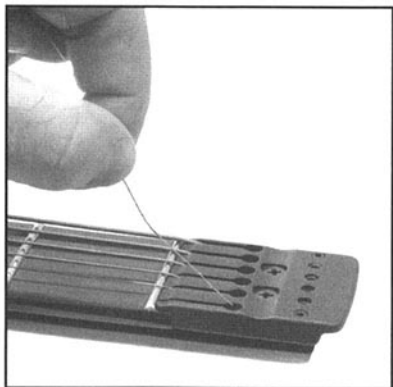

Figure 4
- To install strings, start by putting the ball end into the bridge tuner jaw. Keeping the ball in the jaw, insert the non-ball end through the corresponding headpiece slot and out the back of the headpiece. (Figure 4) Making sure that the ball-end is still in the jaw and that the string is aligned in the corresponding saddle, pull the string end tight as you tighten down the Hex screw. (Tighten Hex screw firmly but do not over tighten as it may damage Hex screw.) Tighten tuning knob and check for any string slippage. If slippage occurs, tighten headpiece Hex screw a little more. Cut used portion of string behind headpiece using wire cutters.